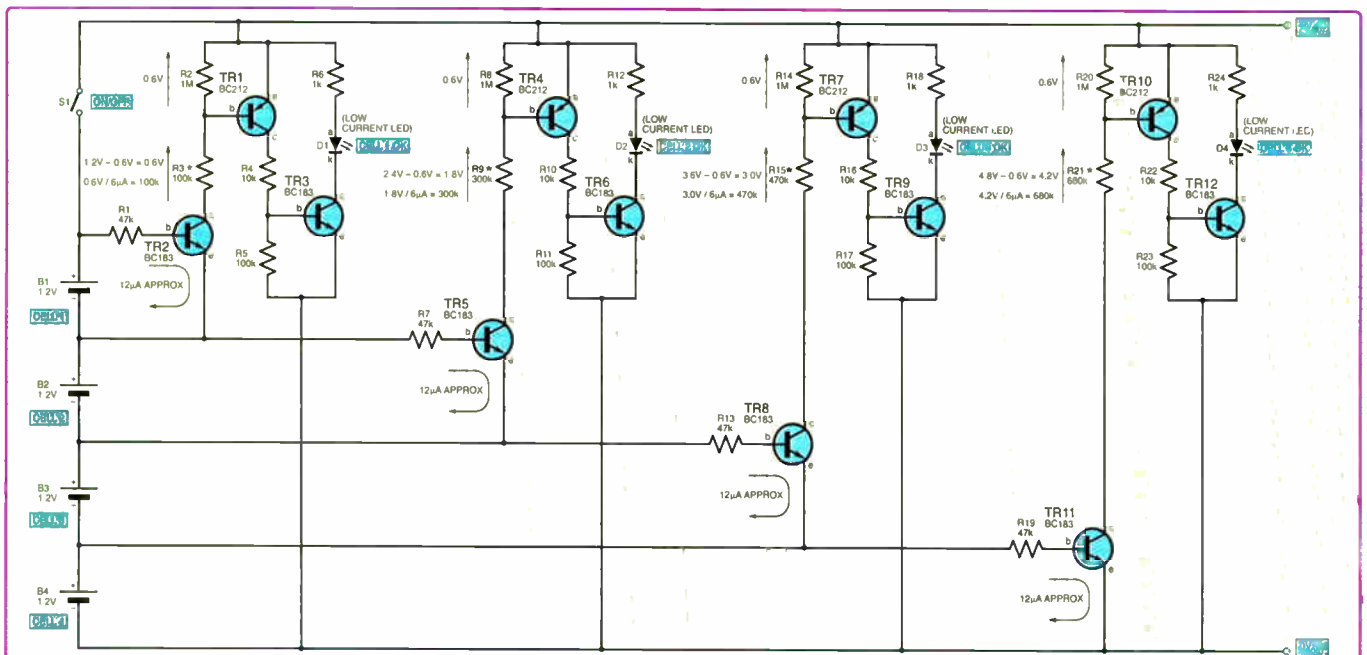

Fig.1. Circuit diagram for the Micropower Cell Monitor
**T**HE circuit shown in Fig.1 will monitor the charge on all the cells in a battery pack. A series-connected battery pack of several NiCad or NiMh cells is very commonly used to provide power for portable projects and devices. However, all cells are not created equal and this can lead eventually to the premature failure of one or more of the cells in the pack.